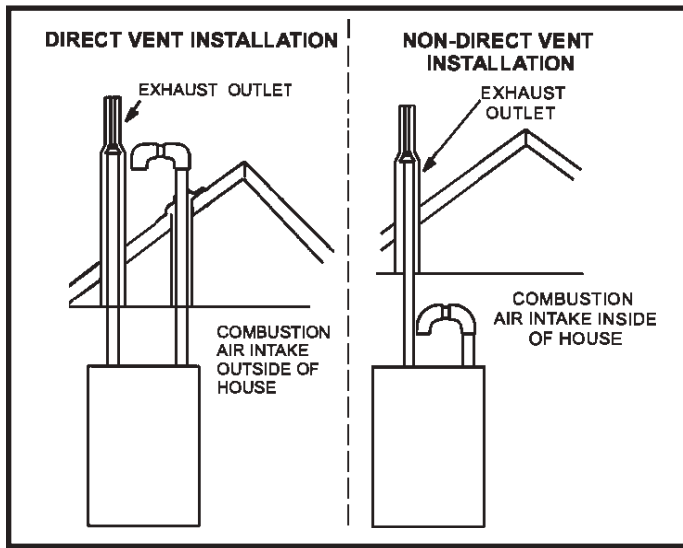

Figure 2A
**NOTE:** In Direct Vent installations, combustion air is taken from outdoors and flue gases are discharged outdoors. Non-Direct Vent installations, combustion air is taken from indoors or a ventilated attic or crawl space and flue gases are discharged outdoors. See Figures 2A and 2B for applications involving roof termination.